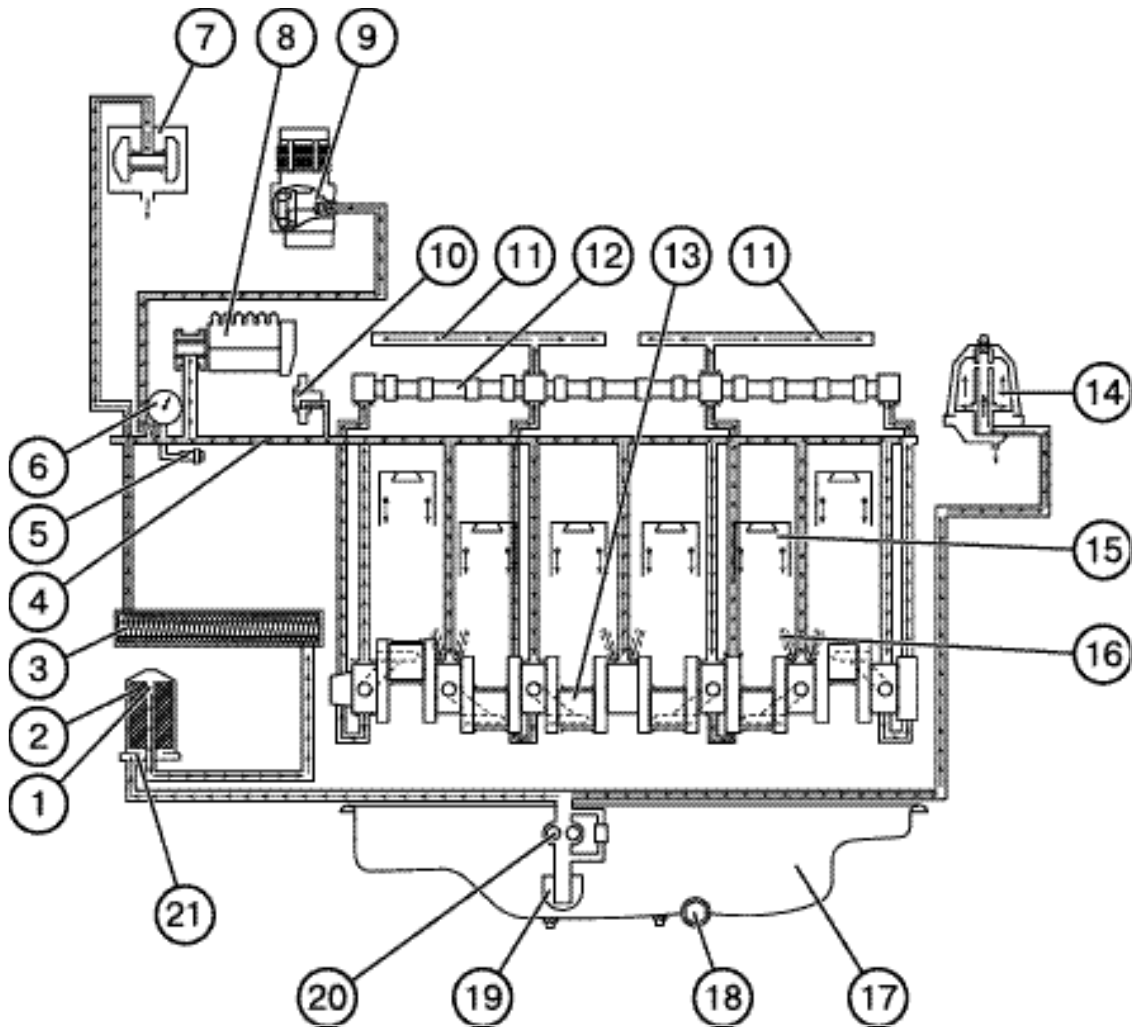

Fig. E-8. Lubrication system diagram:
The engine **lubrication system** is combined: some parts are force-lubricated, the others are splashed lubricated. The system comprises an oil pump, oil filter with a paper filter element, centrifugal oil pump, and an oil-to-liquid heat exchanger. The lubrication system diagram is shown in Fig. E-8.
The automatic mode is provided through a viscous friction coupling (12) (refer to Fig. E-8) as follows: at the coolant temperature below 80°C the return spring (7) holds the valve (10) closed; viscous liquid flows over to the clutch reserve cavity; the driving (11) and driven (13) disks are rotating with a gap in-between and, thus, ensure the fan switched-off state (in this case, the fan rotational frequency shall not exceed 1,500 rpm).